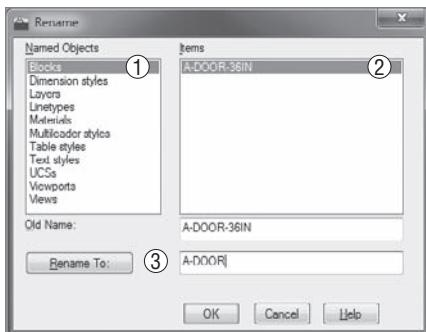

FIGURE 9.50 Renaming the A-DOOR-36IN block to A-DOOR using the **RENAME** command
Enter **RENAME** at the command line to open the Rename dialog box shown in Figure 9.50.
12. Select Blocks under the Named Objects group within the Rename dialog box. Select the A-DOOR-36IN block in the Items list, and enter A-DOOR in the Rename To text box as shown in Figure 9.50.